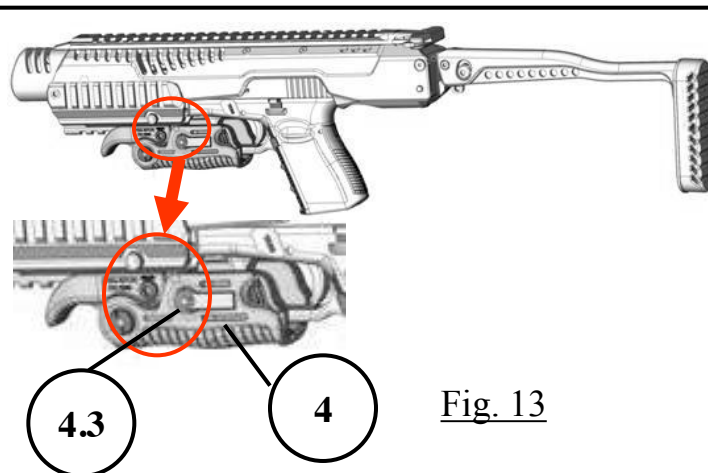

Fig. 13
Press the Release Buttons (4.3) positioned on the Triggerguard Foregrip (4). The Triggerguard Foregrip Extension Slide (4.2) will return to the initial “disengaged” position (Fig 13).